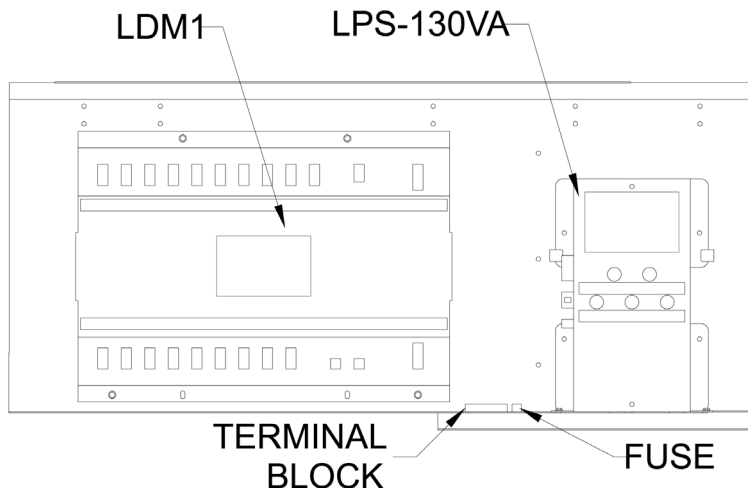

Figure 12 Middle Section Electronics
6. Plug the ribbon cable onto the header on the back of the circuit board. Refer to figure 12 in order to plug the ribbon cable IDC connector onto the circuit board in the proper orientation.